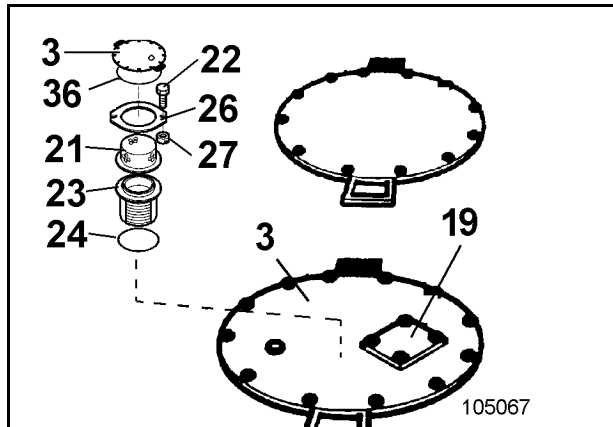
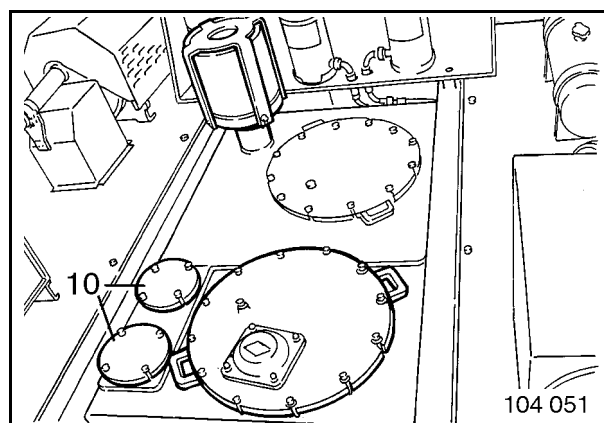

Fig. 3-83:
Fig. 3-84:
- Remove cover (3, Fig. 3-83:) together with sealing ring (36).
- Unscrew screws (22). Withdraw bypass valve.
- Take off screen (23) together with sealing ring and clean in white spirit or paraffin oil. Replace, if required.
- Check sealing ring (24) for damage and replace, if required.
- Insert bypass valve and fasten with screws (22).
- Clean also the screen of the bypass valve in the filter housing (cooling-system). The bypass valve is located under the cover (10, Fig. 3-84:). (See under "Bypass valves / Filter housing (cooling-system)").
- Re-assemble the bypass valve with a new screen (23, Fig. 3-83:) and a new sealing ring.
- Insert bypass valve with new sealing ring (24) and fasten with screws (22).
- Replace also the bypass valve and sealing ring in the filter housing (cooling-system). The bypass valve is located under the cover (10, Fig. 3-84:). (See under "Bypass valves / Filter housing (cooling-system)").